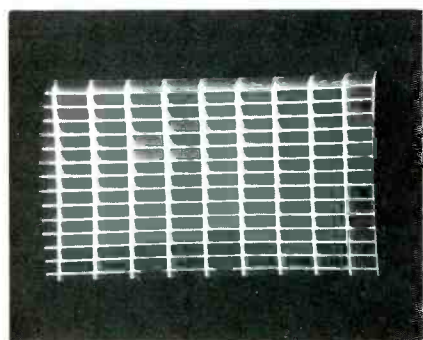

Fig. 19 Many defects, and reducing the height with the control, do not change the linearity, because of the automatic correction.
- Good linearity but reduced height (Figure 19) can be caused by: leakage in C6; increased resistance of R8, R608A or R609; a decreased 15-volt supply; or leakage across the service/normal switch; and